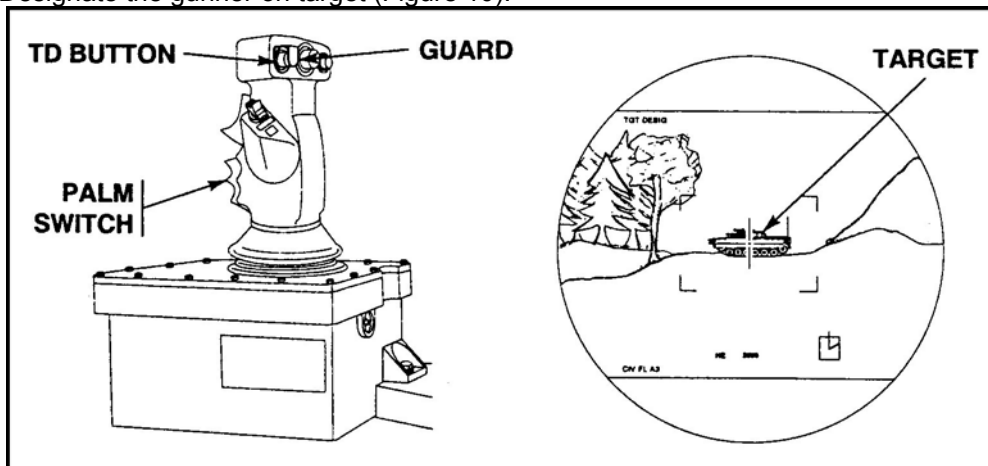

Figure 10. Gunner on target.
- d. Designate the gunner on target (Figure 10).